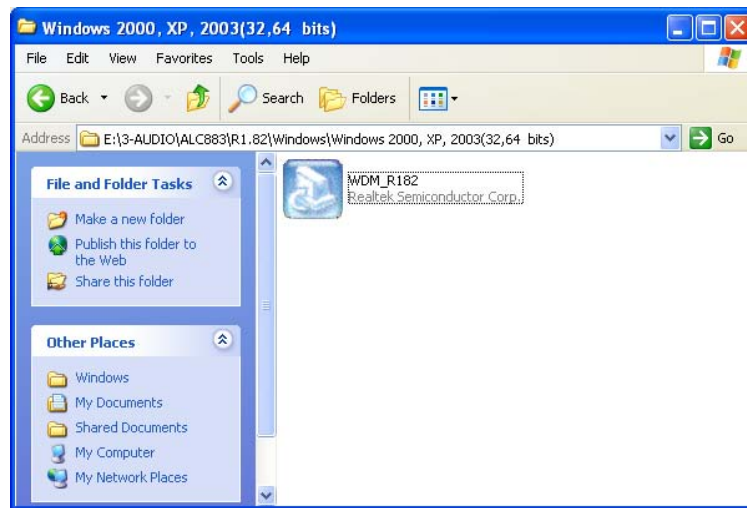

Figure 8-23: Locate the Setup Program Icon
Step 7: Double-click the Setup.exe program icon in **Figure 8-23**.